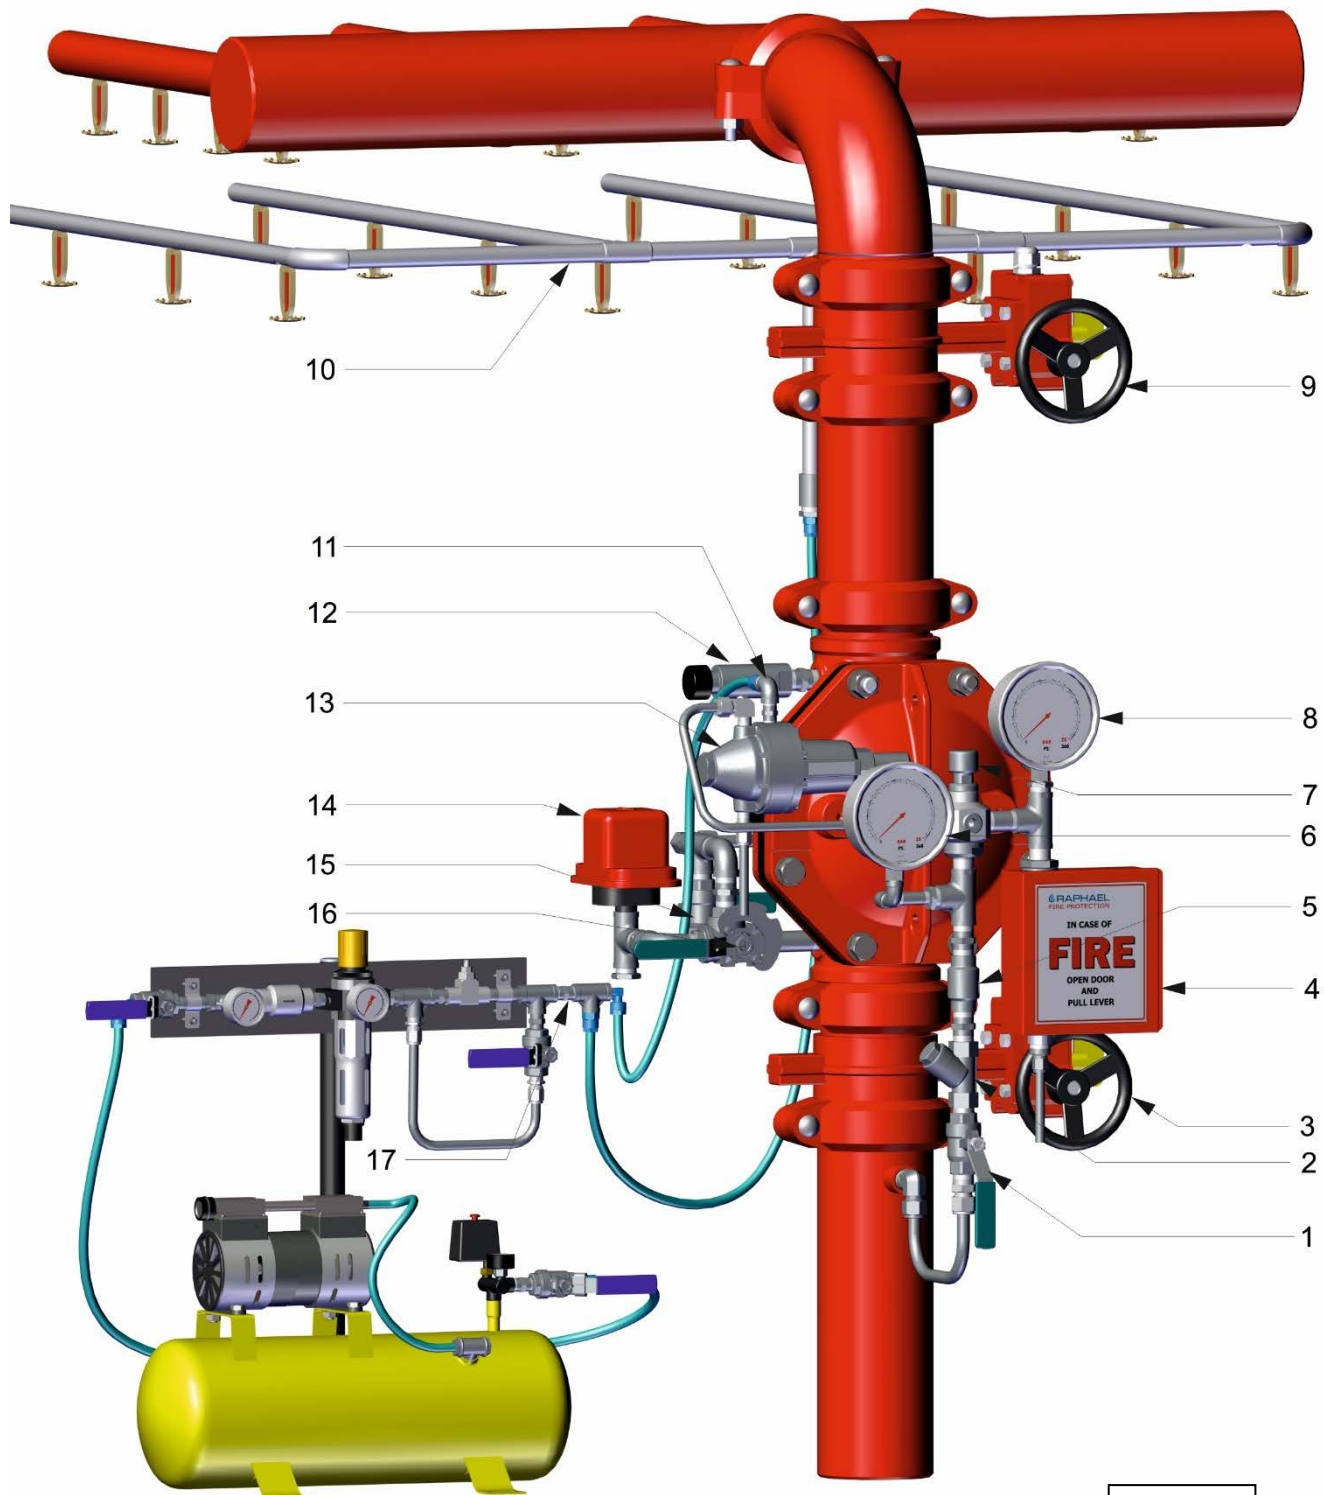

Figure .2
1. Close the Upstream Butterfly valve (3 figure 2). Close
2. Close trim pressure supply (12). Close the air pressure supply to the dry pilot by closing the ball valve at the entrance of the ASK – Air Supply Unit.
5. Open the trim pressure supply valve (12).
6. When done, the PSA (7) push-button should be pressed down until the FDV control chamber is fully pressurized.
7. Open the Upstream butterfly valve (3 fig 2). The system is in SET position.
Installation (Reference Figure 2)
8. All connections to water supply, should be done in accordance with figure 2
- (11 Fig 2) – Dry pilot line to the PAV-2 actuator – ¼" NPT female (remove temporary plug!).
(reference - figure 2)
The procedure described should be carried out after system installation completion and a comprehensive inspection. (Reference Drawing - figure 2)
Fire Situation Simulation (Reference Drawing - figure 2)
(Reference drawing - figure 2)
Resetting & placing in service (Reference Drawing - figure 2)
2. Verify that the upstream butterfly valve (**3** figure 2) and the Trim pressure supply valve (**1**) are in fully open position.